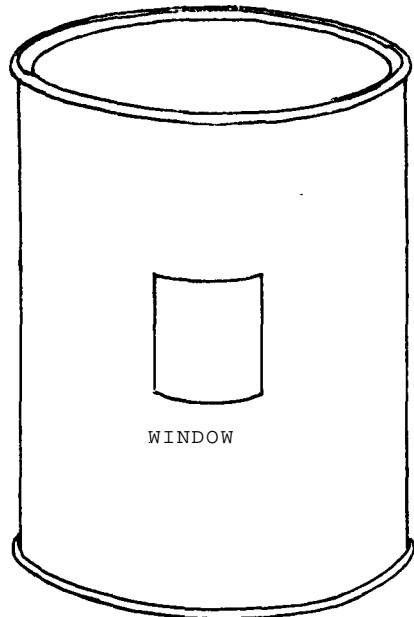

FIG. 1.
4. Cut a hole in the lid of the tin, so that the light bulb and socket will be held there (Figure 1). Cut a window in the side of the tin as shown in Figure 1. The light bulb should be just inside the window.